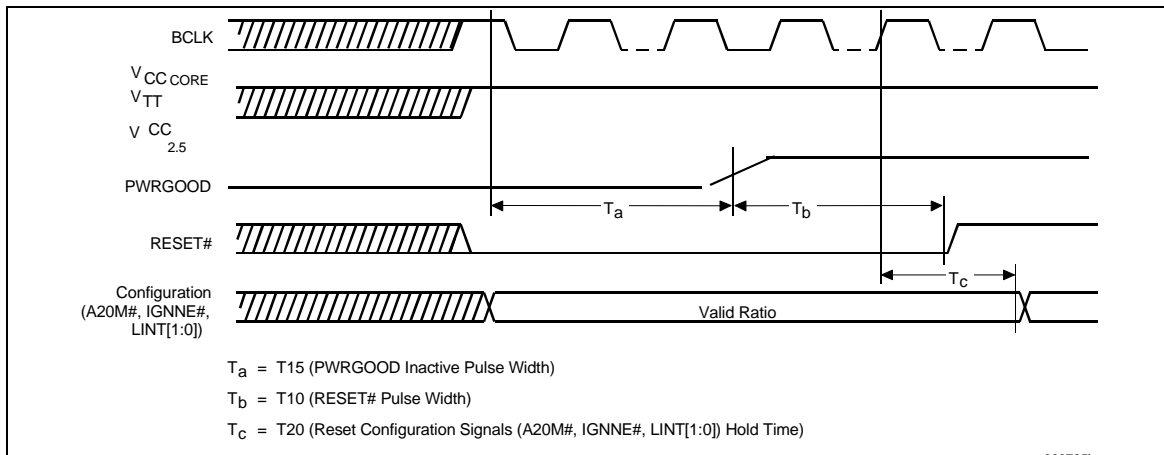

Figure 8. Power-On Reset and Configuration Timings
5. After the bus ratio on A20M#, IGNNE# and LINT[1:0] are stable, VCC_CORE, and BCLK are within specification, and PWRGD is asserted. See Figure 8, 40 & 41.